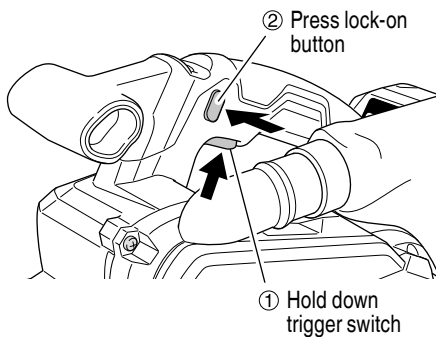

Fig. 15
5. Switching the sander ON and OFF (Fig. 15)
The lock-on button can be released pulling the trigger. (Fig. 15)